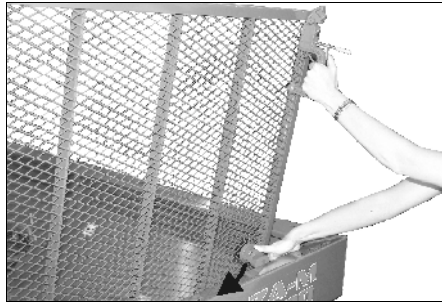

Fig. 18
- Prior to closing the guard screen press down the locking device (Fig. 18).